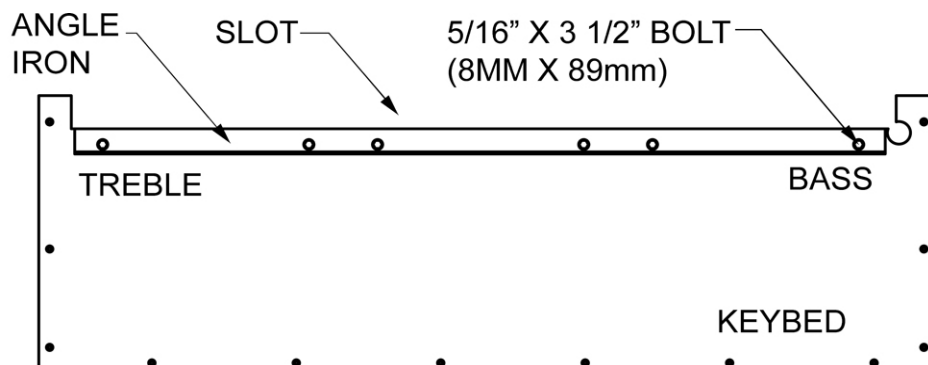

Figure 15
- A. Place the (6) 5/16 x 3 1/2" (8mm x 89mm) bolts in the keybed and bolt the angle iron in place with lock washers. (See Fig. 15)